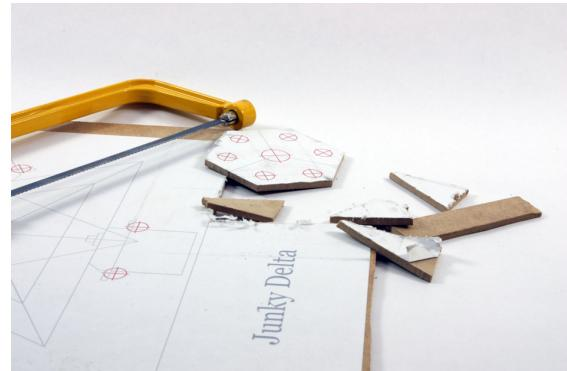

Figure 13-6 Cutting hardboard
3. Get the template PDF file from the GitHub repository, print it out, and affix it to the hardboard. Now cut out the end effector and the extra bits from the board using your saw (see Figure 13-6). You don't have to be fancy and cut out the hexagon—you can make it square or circular (you can use a large hole saw) and it will work just as well.